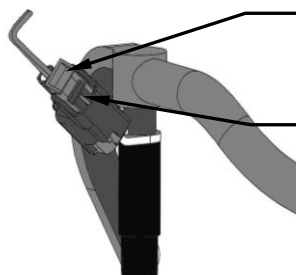

FIGURE 7
6. From right side of motorcycle locate front fuel injector connector behind water thermostat housing. Use flat blade screw driver or inner edge of supplied injector connector removal tool, and pull up on the RED tap on connector. See Figure 7. Once released, place narrow end of removal tool (end with part number stamped) around injector connector below RED tab and gently pull connector up and off of injector, do not pull too far with tool once off injector to prevent damage to wire harness and other components. See Figure 7 and 8. Route stock female connector to left side of motor cycle and connect to longest male connector on Fi2000 fuel injection harness. Plug female Fi2000 connector on to front injector using wider end of supplied tool.